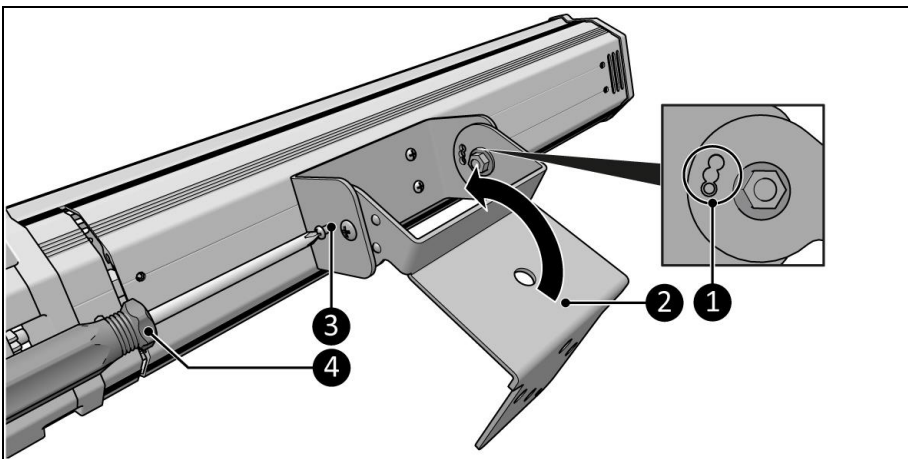

Figure 7
4. Move the suspension bracket (Figure 7, pos. 2) and choose one of the three positions (Figure 7, pos. 1).
5. Secure the device in the desired position with the small screws (Figure 7, pos. 3) and a Phillips screwdriver (Figure 7, pos. 4).